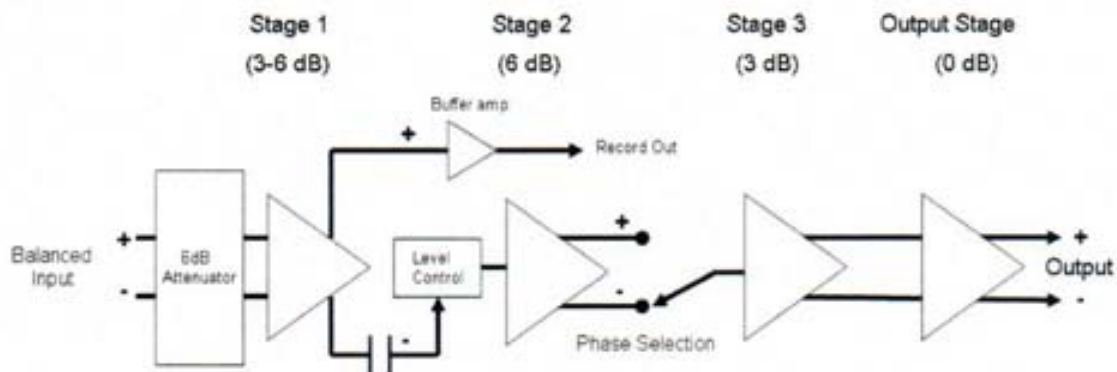

Figure 5 – Block Diagram of Pre I
- The record output has unbalanced (RCA) connectors only. This output is intended for use with recording devices, or other amplifiers, which have an input impedance $\geq 10\text{k}\Omega$. (Lower input impedances can be used, but the low frequency response out of the Pre I will be reduced.) Also, as shown in Figure 5, this output is independent of the Pre I output level and the phase is non-inverted (normal) with respect to the input signal.
The block design of the Pre I is shown in **Figure 5**. It consists of three fully differential all FET gain stages and each gain stage employs its own precision, temperature compensated, constant current source and voltage regulator for the ultimate in stability, signal control, and isolation.
As can be seen from **Figure 5**, the input to the Pre I is fully balanced. When using an input that is unbalanced, the negative side of the balanced input is grounded to prevent it from adding interference. The precision 6dB attenuator at the input is based on a "T-pad" constant impedance design and is active on both the positive and negative sides of the